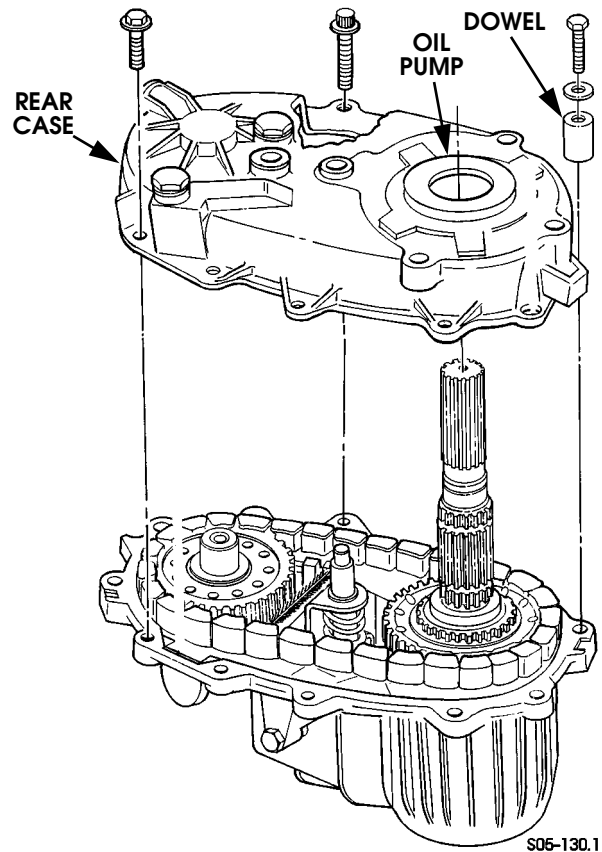

Figure 5-165: Rear Case Installation
- 33. Align and install rear case on front case (Figure 5-165). Be sure alignment dowel is seated and that oil pump is properly engaged in mainshaft splines. Also be sure front output shaft is seated in rear bearing and shift rail is seated in rear case bore.